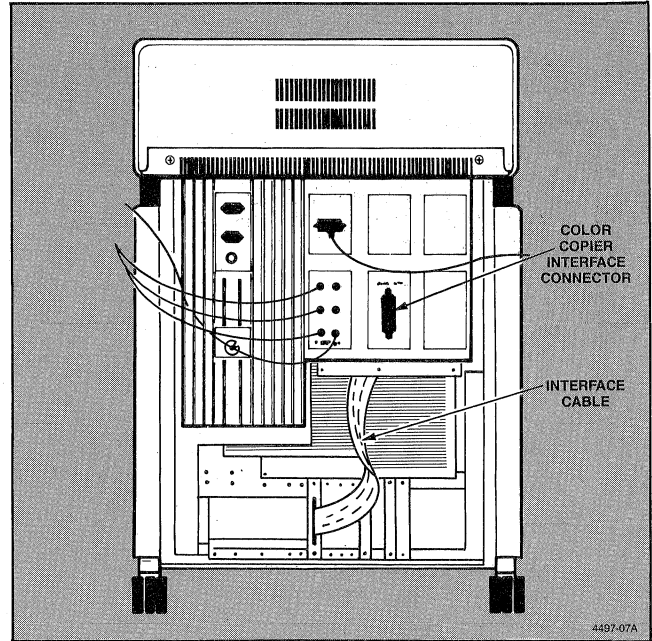

Figure 4. Interface Cable Installation.
5. Routing the cable as shown in Figure 4, mount the color copier interface plate in the opening created in Step 4.